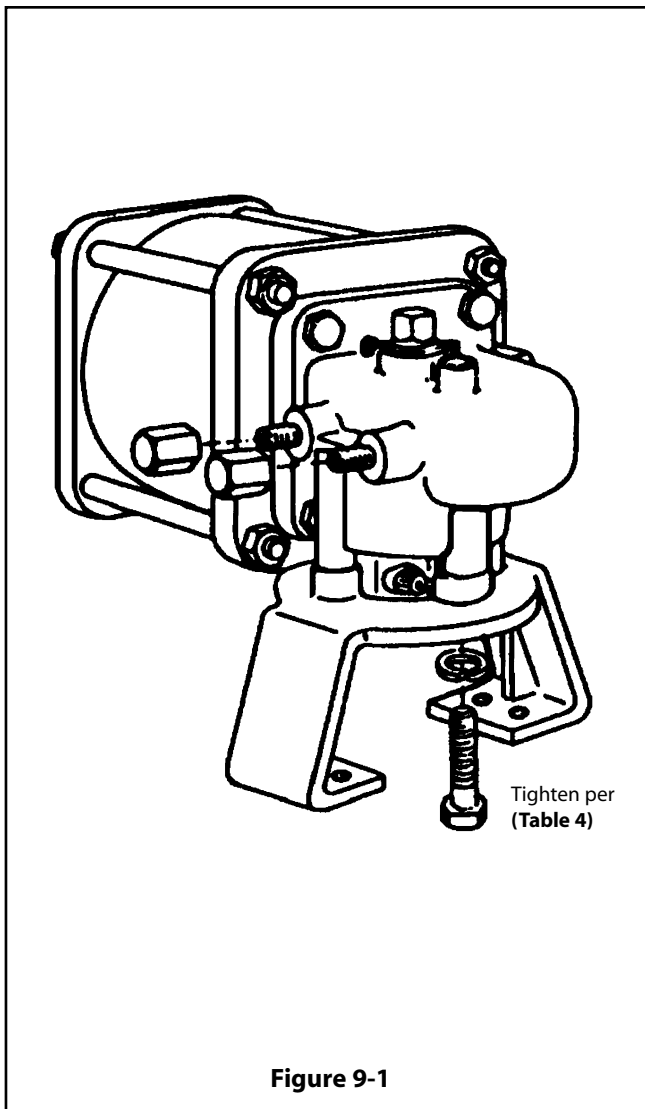

Figure 9-1
2. Assemble bracket to actuator as shown in **(Figure 9-1)**. Tighten to torque listed in **(Table 4)**.